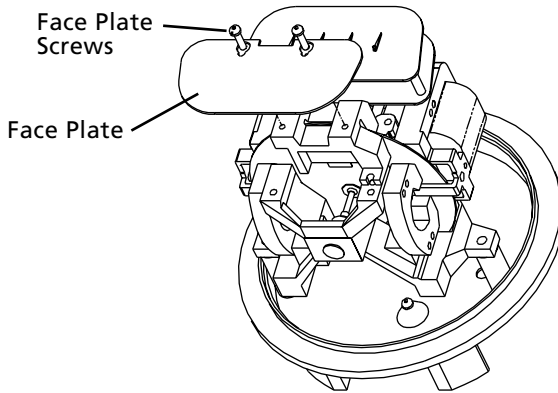

Figure 11. Removing Face Plate
3. Remove the face plate screws and face plate. See Figure 11.